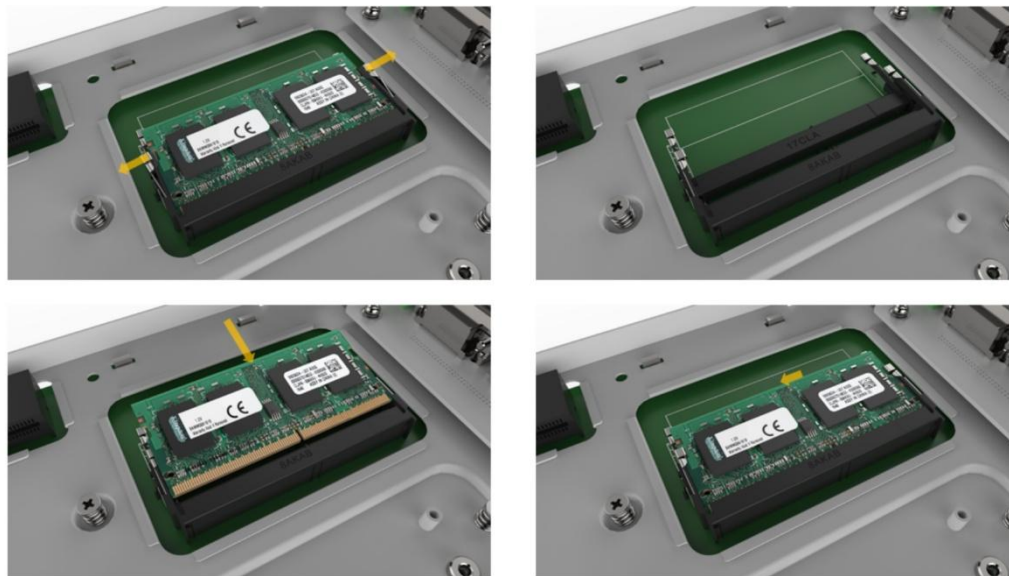

Figure 3-13: Memory installation
Step 3: Once aligned, press down until the memory module is properly seated and the two handles fully clip into place (**See Figure 3-13: Memory installation**)